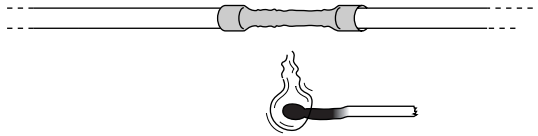

FIGURE 9-7: Heat the tubing to shrink it over soldered joint.
- Using a match or a butane lighter flame (or by stroking the tubing with the hot barrel, not tip, of your soldering iron), heat the tubing just until it shrinks down around the soldered connection (see Figure 9-7). Don't overheat it. If you do, it will burn and crack away.